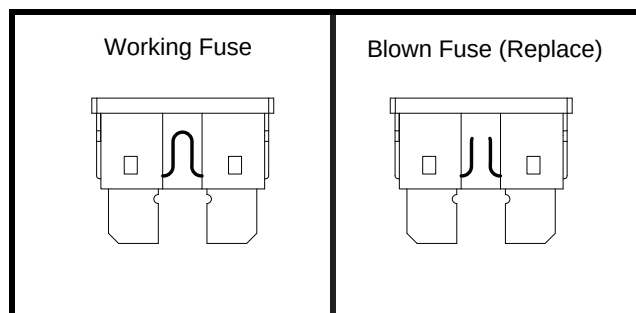

Figure 27. Fuse Replacement
2. Examine the fuse to be sure it is blown. See figure 27.